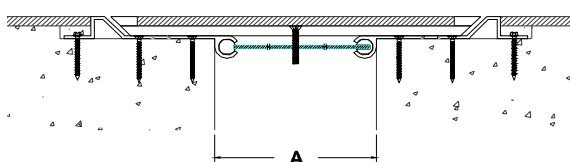

Figure 9
**STEP 12.** Install finish floor material at this time (see Figure 9). Install finish floor material in accordance with the instructions provided by the finish floor material manufacturer.